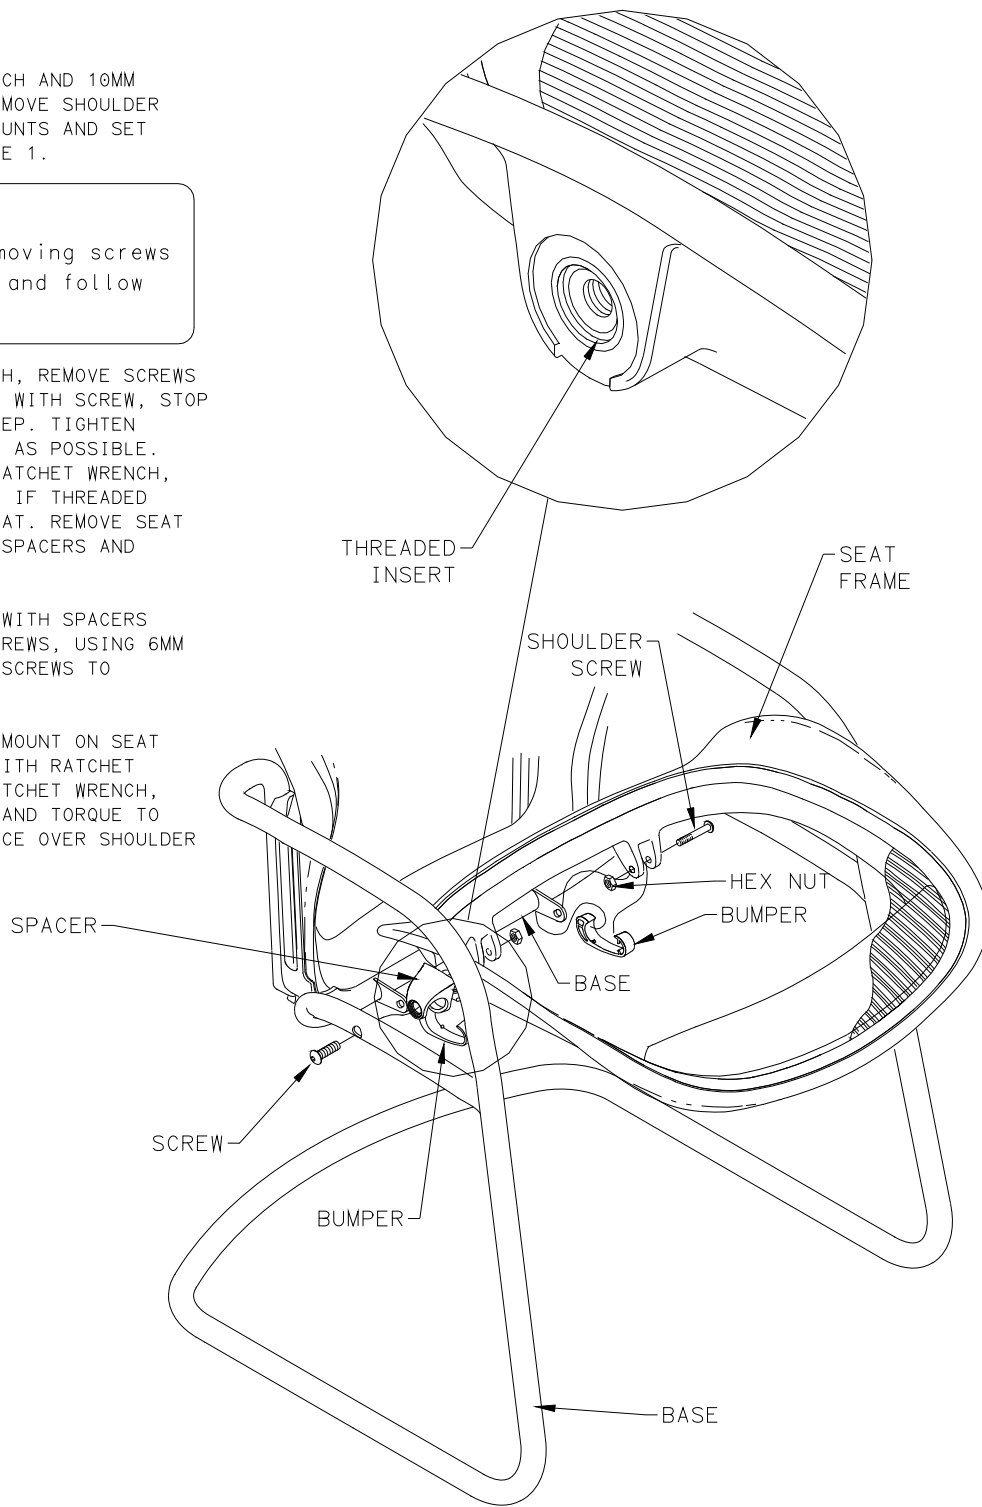

FIGURE 1
1. USING 4MM HEX BIT WITH RATCHET WRENCH AND 10MM SOCKET HEAD WITH RATCHET WRENCH, REMOVE SHOULDER SCREW AND HEX NUT FROM REAR SEAT MOUNTS AND SET ASIDE. SET ASIDE BUMPERS. SEE FIGURE 1.
2. USING 6MM HEX BIT AND RATCHET WRENCH, REMOVE SCREWS FROM BASE. IF THREADED INSERT TURNS WITH SCREW, STOP IMMEDIATELY AND DO THE FOLLOWING STEP. TIGHTEN SCREWS INTO THREADED INSERT AS MUCH AS POSSIBLE. USING A QUICK JERKING MOTION WITH RATCHET WRENCH, BACKOUT SCREW FROM THREADED INSERT. IF THREADED INSERT STILL TURNS WITH SCREW, REPEAT. REMOVE SEAT AND DISPOSE OF PROPERLY. SET ASIDE SPACERS AND SCREWS. SEE FIGURE 1.
3. PLACE REPLACEMENT SEAT FRAME ALONG WITH SPACERS BETWEEN BASE AND SECURE WITH (2) SCREWS, USING 6MM HEX BIT AND RATCHET WRENCH. TORQUE SCREWS TO 180-200 IN LBS. SEE FIGURE 1.
4. INSERT SHOULDER SCREW THROUGH SEAT MOUNT ON SEAT FRAME AND BASE. USING 4MM HEX BIT WITH RATCHET WRENCH AND 10MM SOCKET HEAD WITH RATCHET WRENCH, TIGHTEN SHOULDER SCREW AND HEX NUT AND TORQUE TO 180-200 IN LBS. SNAP BUMPERS IN PLACE OVER SHOULDER SCREWS AND BASE. SEE FIGURE 1.